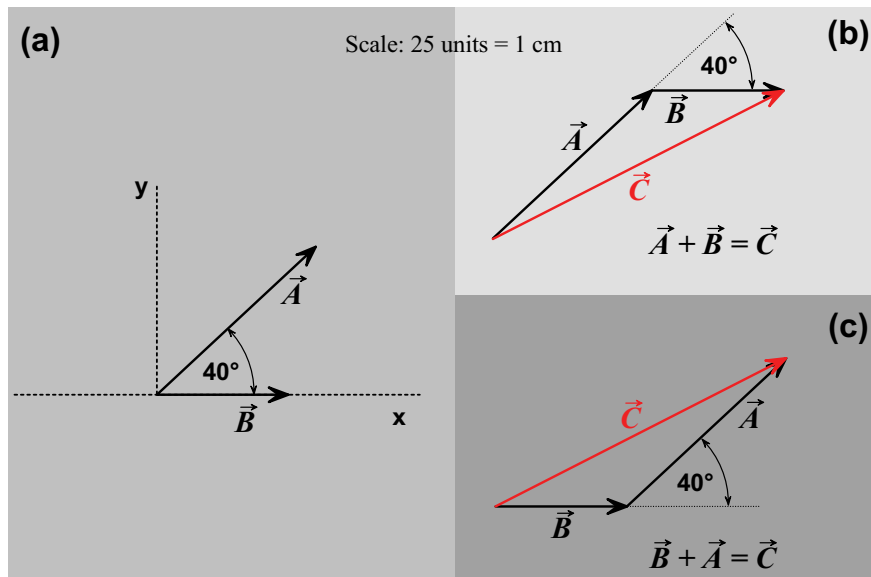

Figure 1: Graphical addition of two vectors
The graphical addition of two vectors is illustrated in Figure 1. A suitable scale must be chosen, so that the diagram will be large enough to fill most of the work space. The scale is written in the work space in the form of an equation, as appears at the top of Figure 1. This is read as "25 units of force are represented by 1 cm on the page".
A 0° direction should also be indicated, for example the x axis in Figure 1(a). Figure 1(b) illustrates starting with \vec{A} , while Figure 1(c) starts with \vec{B} . In each case the second vector is drawn from the head of the first vector (this is the head-to-tail rule). Note that the direction of the second vector is measured from the direction of the first vector as shown in Figure 1(c).
You can think of this process as "walking" along segments of a path. The equivalent walk, or **resultant vector**, goes from the beginning (tail) of the first vector to the head of the last vector. This is the vector \vec{C} shown in Figures 1(b) and 1(c). The length of this vector can be measured and the scale used to convert back to force units. The direction can also be measured, so that the force vector is then completely described.
- (b) Choose a scale so that the sum of the two forces would almost reach across the page. Draw a scale diagram of the two vectors in the "head to tail" position, as in the $\vec{A} - \vec{B}$ portion of Figures 1(c) or 2(b). Complete the diagram so as to determine the magnitude and direction of the resultant, as in Figure 1(c). The resultant is the single force that is the sum of the two original forces.